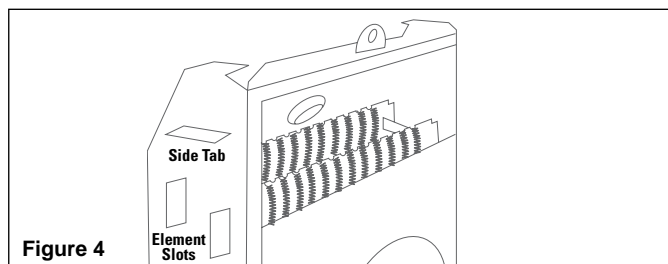

Figure 4
7. Bend a single tab at top of shell flange (right or left side) with pliers to allow shell flange to move outward. (See Figure 4)
10. Carefully place new element in element slots. (See Figure 4)
11. Align side tab and slot on heater shell. Bend side tab 45 degrees to secure shell. (See Figure 4)